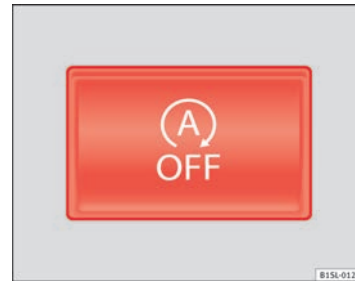

Fig. 101 At the top of the centre console: Start-Stop system button
- Press the button  situated in the centre console ⇒ Fig. 101.